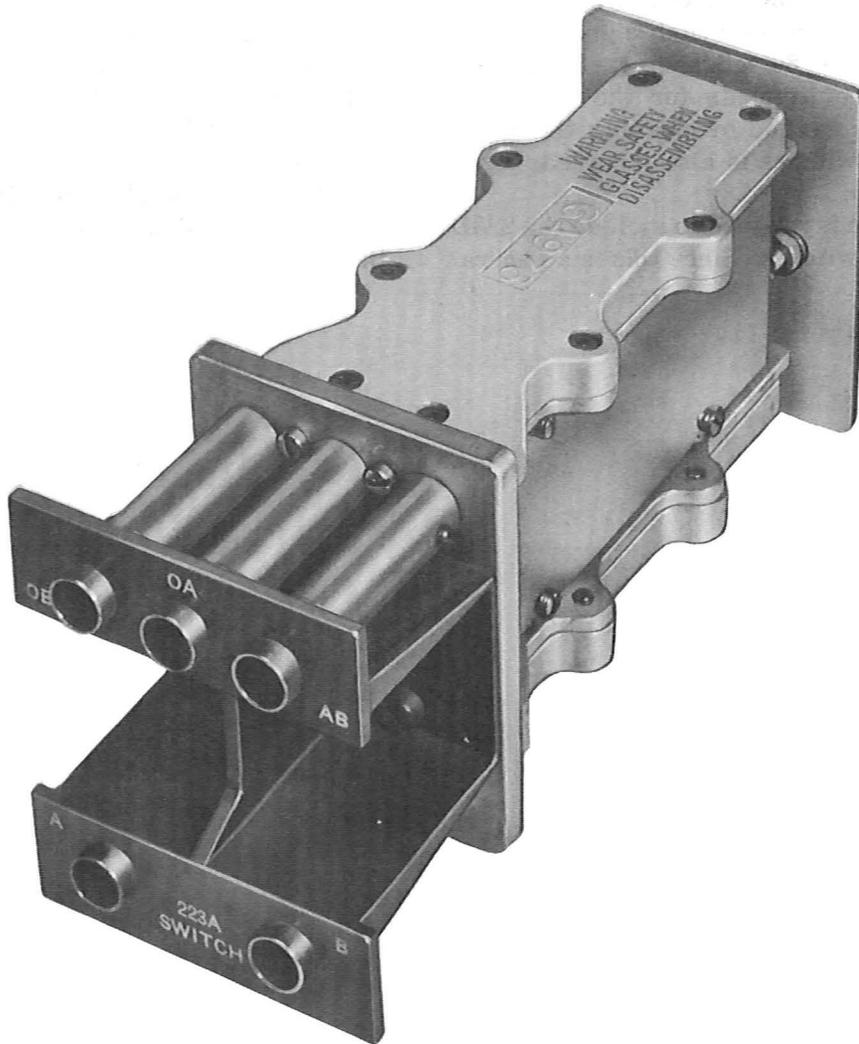

Fig. 1 — 223A Coaxial Switch, Assembled
**1.03** The 223-type switch (Fig. 1, 2, 3, and 4) is a high-speed, electro-magnetically operated, coaxial-type transfer switch used for switching 75-ohm lines at high frequencies. The 223A, 223B, and 223C switches are reed-type mercury switches while the 223D and 223E switches are the dry-reed sealed contact type. The D and E switches are similar although the D switch is designed to operate at 60 V dc and the E switch at 24 V dc.